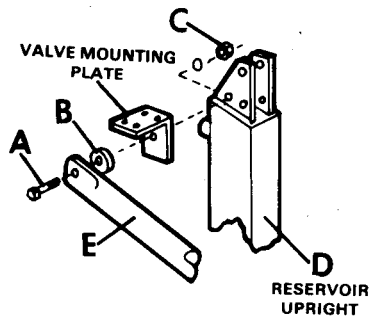

FIG. 11
2. Refer to FIG. 11.
Hoist pre-assembled Main Frame into position and connect points (A), (B), and (C) to Upright (D). Points (B) and (C) both use (1) $\frac{1}{4}$ x2 $\frac{1}{2}$ " Hitch Pin (E) and #11 Clip Pin (F). Point (A) is connected with (1) $5/8$ x2 $\frac{1}{2}$ " Hitch Pin (G) and #3 Clip Pin (H). Now connect the Valve Mounting Plate (I), with Valve attached, to the Upright Reservoir. (refer back to Fig. 11) Make sure all Bolts are tight.